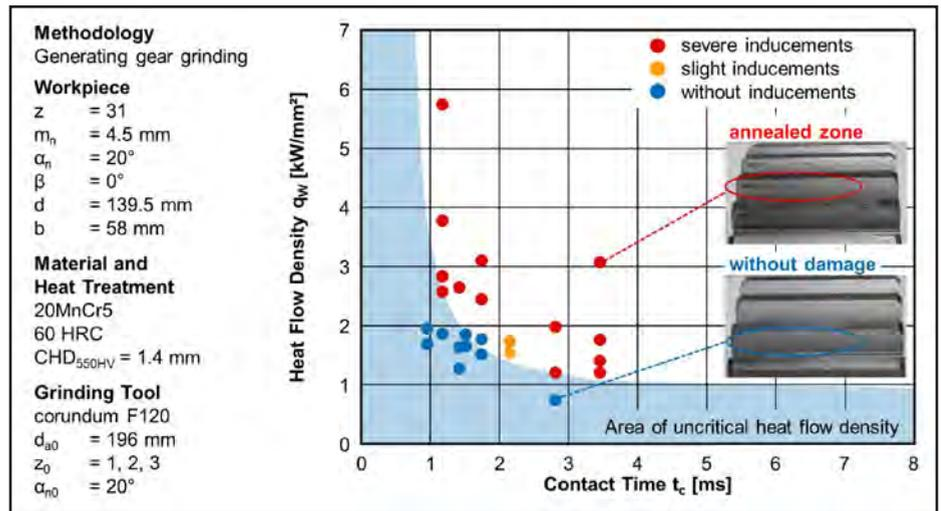

Figure 9 Model validation for sample gear.
**Transfer to generating gear grinding.** For the validation of the prediction model a deductive approach is chosen in the following. The general model was applied to a particular case to validate the findings. For the gear that is mapped in the analogy trail, the heat flow densities have been calculated for each set of process parameters. The classification of heat flow densities and surface zone inducements in the analytical empirical prediction model is shown in Figure 9.